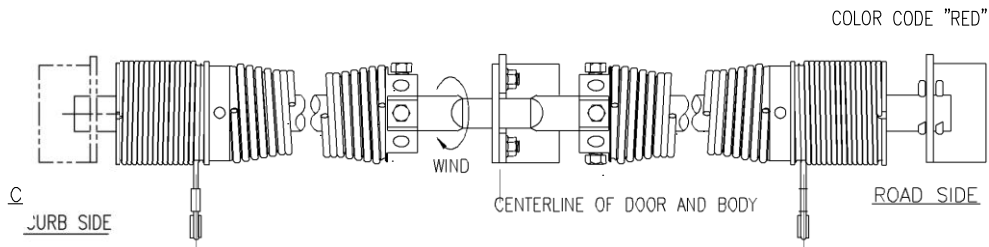

FIGURE 6
- a.) 3 mounting brackets are required, center, roadside* and curbside*. It is important that mounting surface is flush (in line) to all three locations. If necessary, install mounting plates of sufficient size to serve as a base for the balancer brackets. (SEE FIGURE 6)
- b.) Locate center bracket at centerline of header. Position it so pointed tab is at top, angled section at bottom. **(SEE FIGURE 6)**